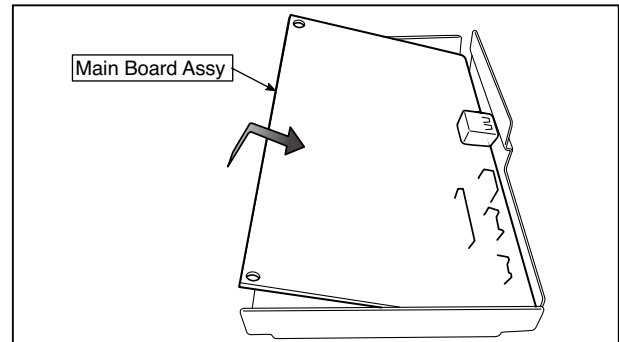

Fig.15
- 5.When replacing the Main Board Assy shown in the figure 15, insert the Main Board Assy from the oblique direction so that the parts mounted at the rear of the Main Board Assy are not damaged.